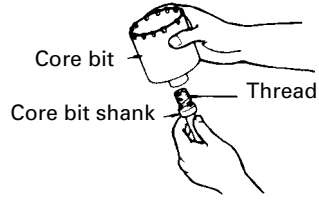

Fig. 15
- (1) Mount the core bit to the core bit shank (Fig. 15).